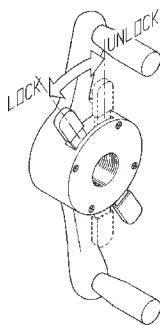

Figure 12
4. Tighten Quick-nut securely with both hands. To operate the Quick-nut pull the lock-unlock lever (Figure 12). Slide the Quick-nut on the threaded shaft. When in contact with the rim, release the unlock lever and tighten firmly. To assist in centering the wheel properly, rotate the wheel on the shaft while tightening the quick nut.